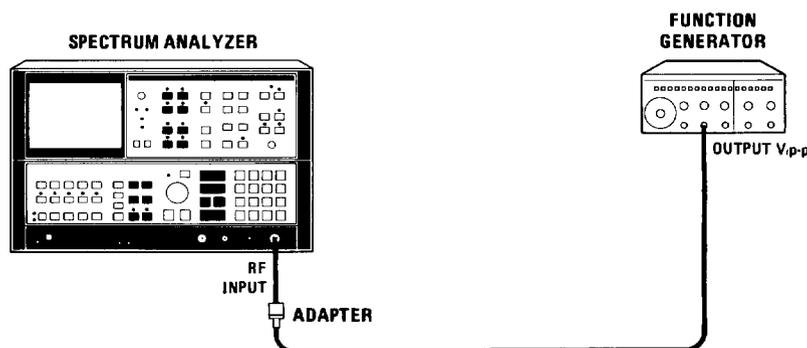

FIGURE 14. FREQUENCY RESPONSE TEST SETUP (100 Hz TO 100 kHz)
Equipment listed is for three test setups, Figures 14, 16, and 18.
3. Press  on the spectrum analyzer. Connect function generator to analyzer RF INPUT as shown in Figure 14.